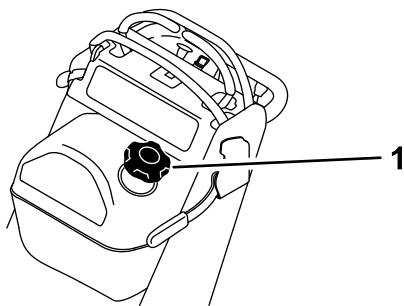

Figure 39
3. Clean around the fuel cap to prevent debris from getting into the fuel tank (Figure 39).
6. Using the syphon pump, drain the fuel into a clean fuel can (Figure 39).